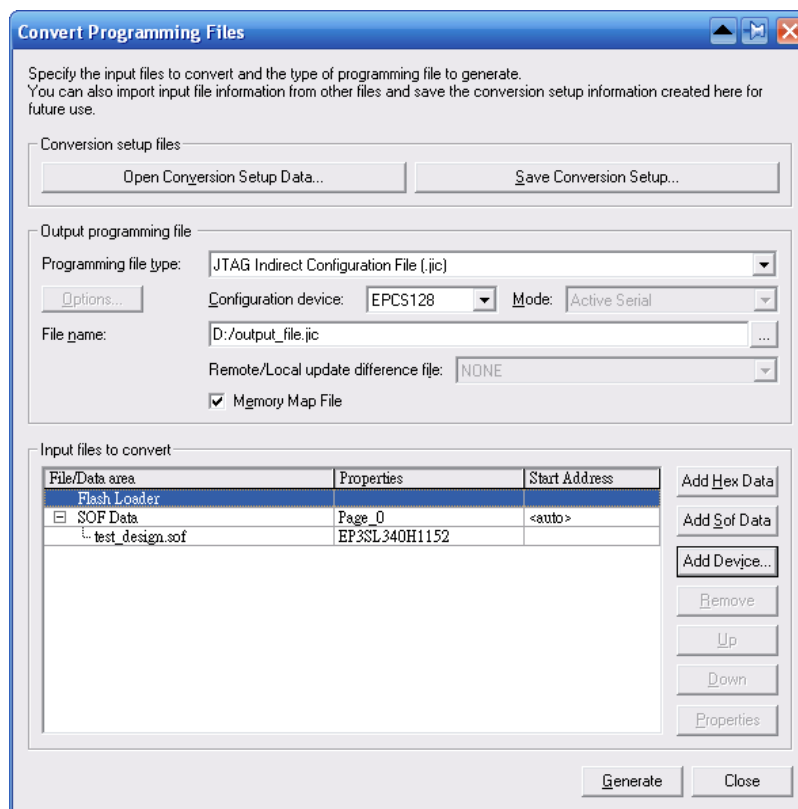

Figure C.2. Highlight Flash Loader
9. Highlight the Flash Loader and click **Add Device**. See Figure C.2.